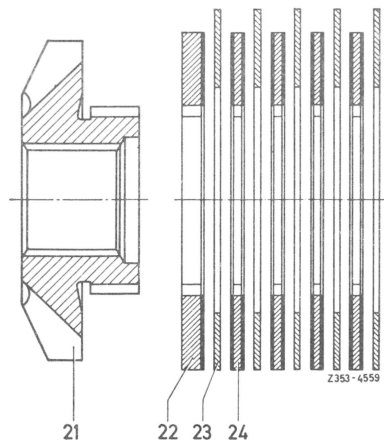

Fig. 8
- 11** Mount friction plates on both side gears in correct sequence (Fig. 8).